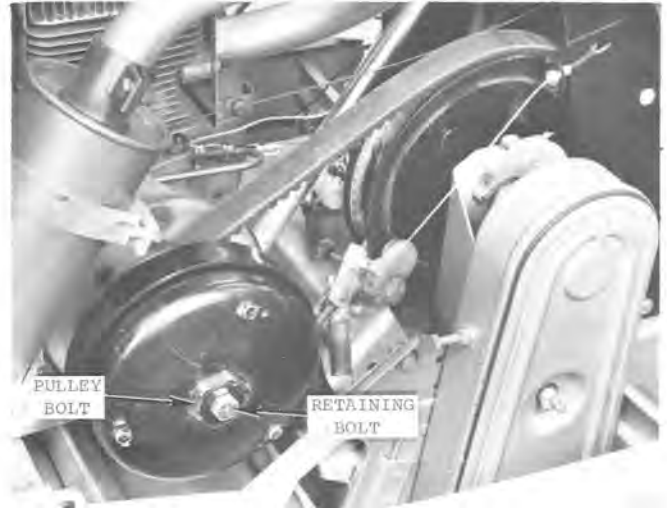

Fig. 55 — Drive Pulley Used with L 380 Engine
3. If pulley is to be removed from L 380 engine, proceed as follows (see Fig. 55):